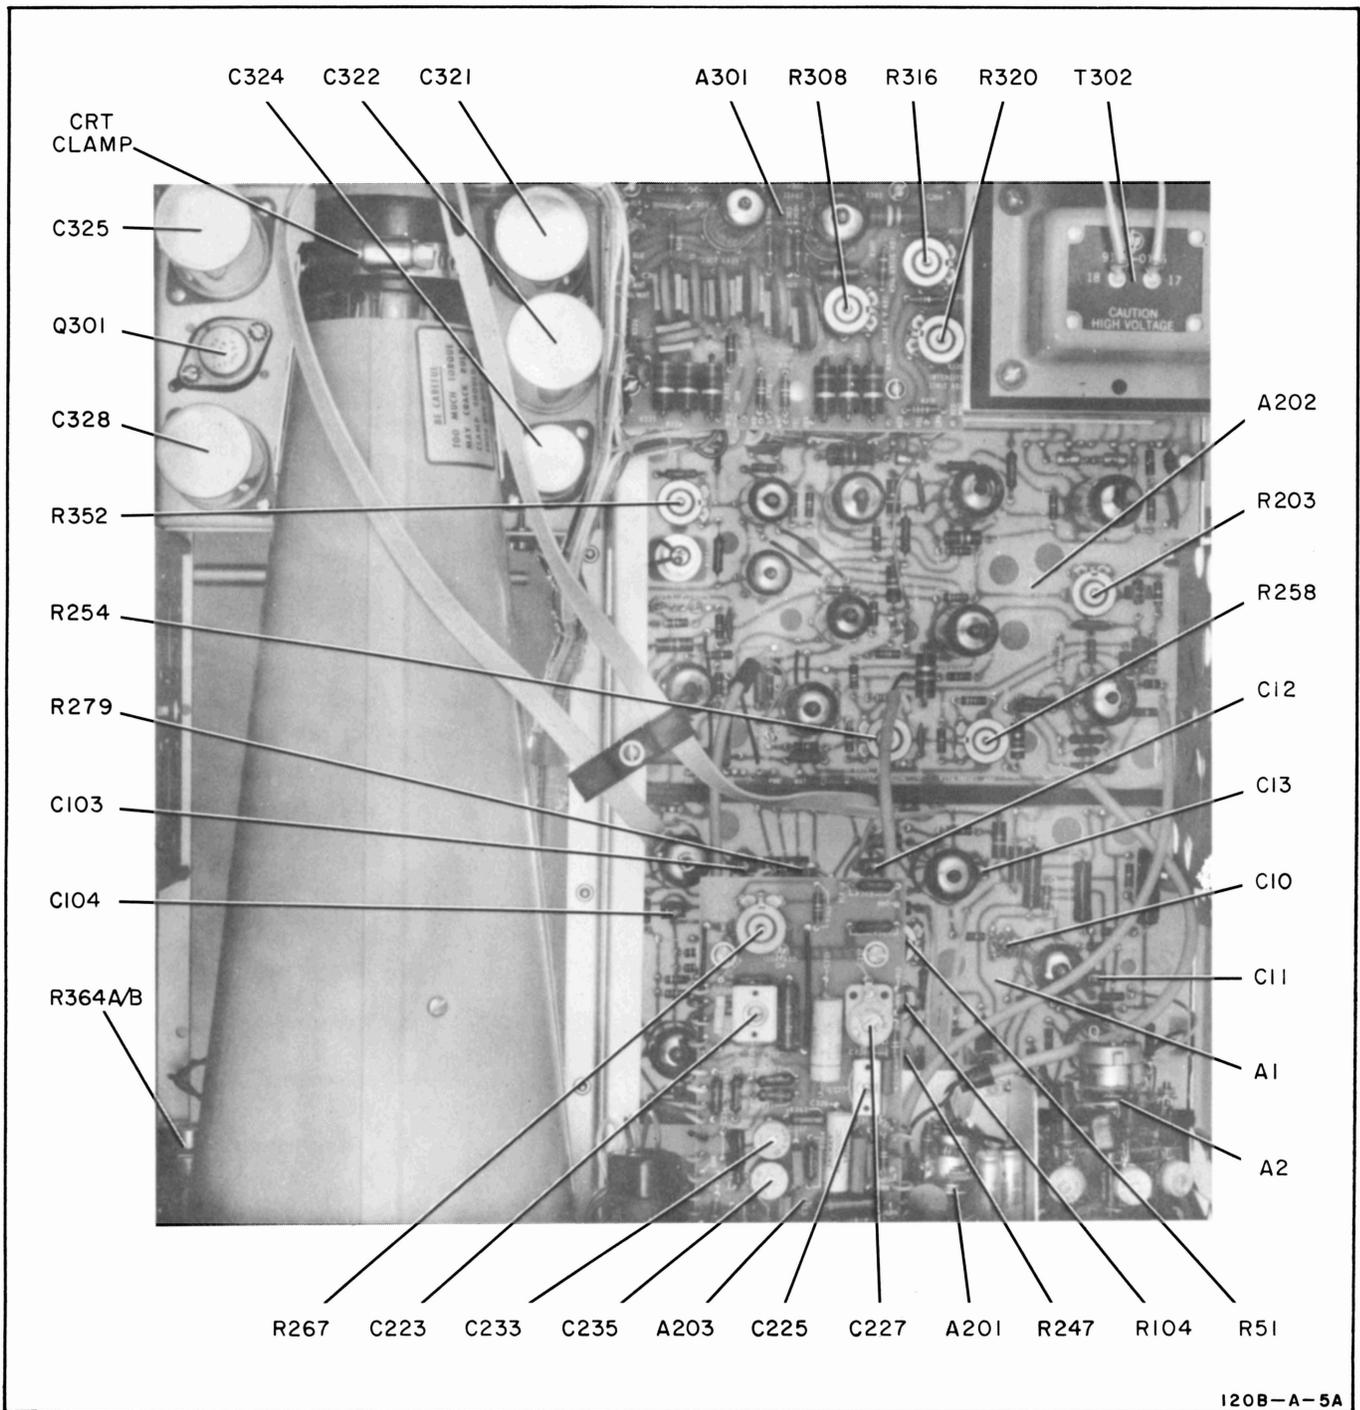

Figure 5-1. Top View, Location of Parts and Adjustments
to isolate a malfunction to a particular functional section of the Model 120B; and sectional troubleshooting, which is used to locate the faulty detail part. Figures 5-1 through 5-4 show the location of parts whose designations are not directly imprinted on a circuit board or chassis.
- b. Loosen clamp screw (figure 5-1) on crt base; do not remove screw or clamp.
5-29. -150-VOLT ADJUSTMENT. Using a dc VTVM, adjust potentiometer R352 (figure 5-1) for -150 volts dc.
- b. Adjust potentiometer R308 (figure 5-1) for a voltmeter reading of -2500 volts.